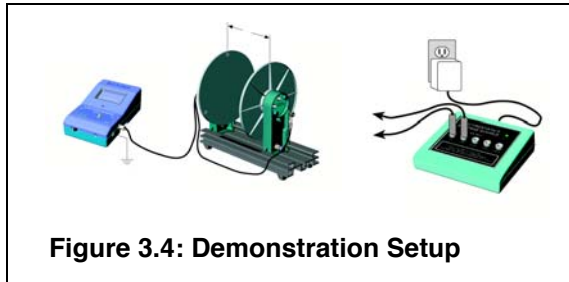

Figure 3.4: Demonstration Setup
- Figure 3.4 shows the equipment set up. The Parallel Plate capacitor is connected to the electrometer and the electrometer is grounded to earth. The voltage source